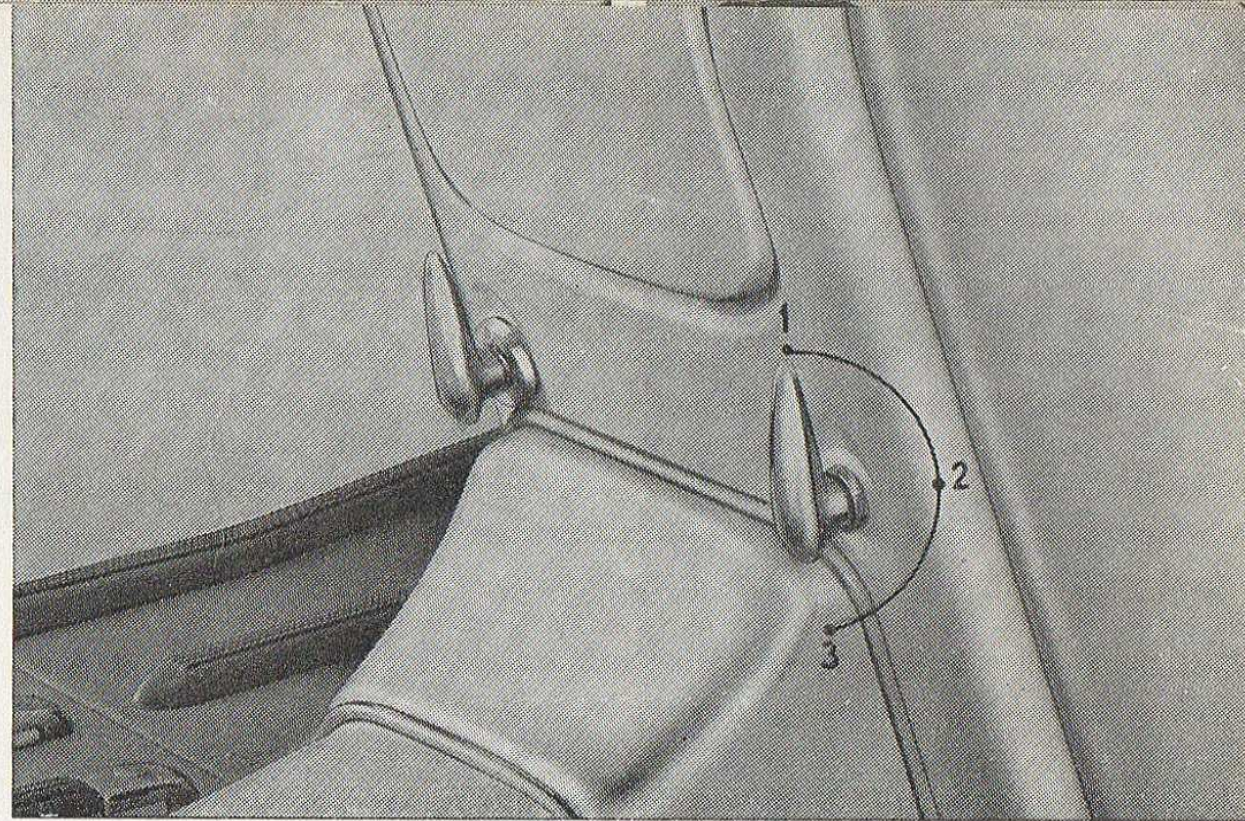

Fig. 6
**On Left hand side:** 3-way fuel tap (closed, open, reserve) see fig. 6.